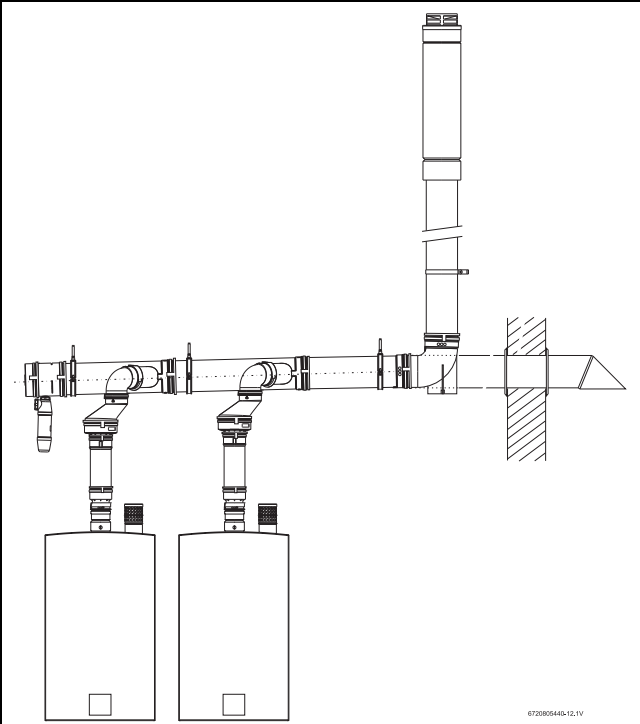

Fig. 25 Common venting for 2 to 4 water heaters available with vertical or horizontal termination
The systems are custom configurable for vent lengths from 40" (1m) up to 100' (30m) and either a vertical or horizontal termination (see fig. 25).
| 2     | Side by Side - see fig. 25 |
**NOTICE:** Figures 25 to 27 depict the conceptual configurations available.